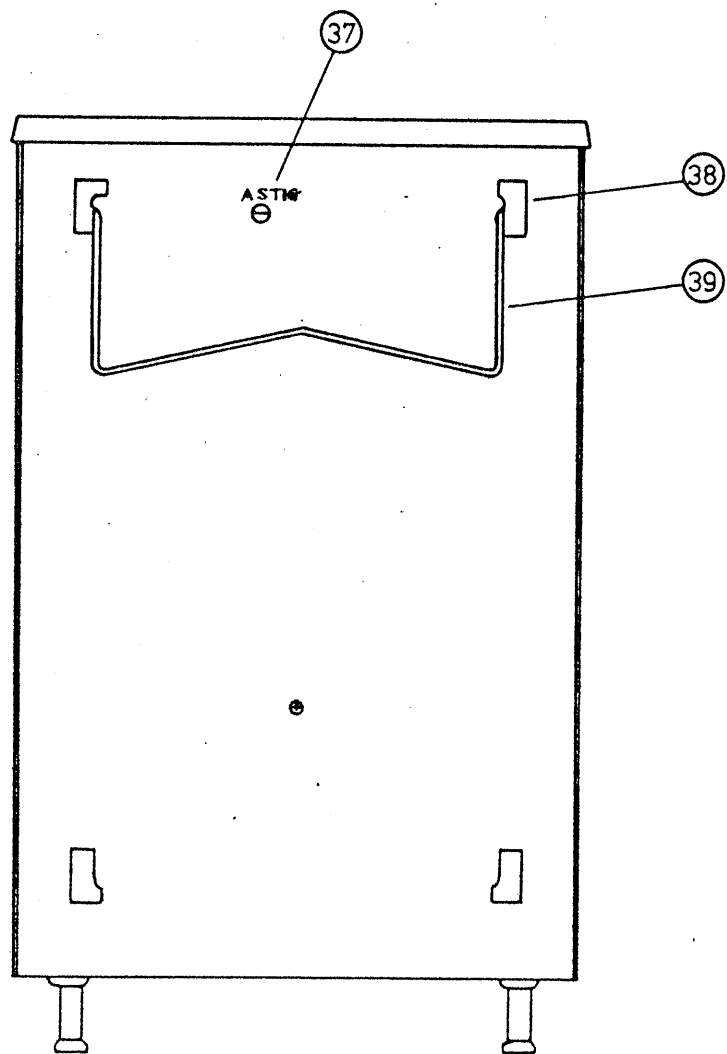

Fig. 3
③④	—	AC power cord of the oscilloscope
③⑤	—	Studs for using the oscilloscope in a vertical attitude. Also used as AC power cord take-up posts.
③⑥	(FUSE)	Fuse holder. Fuse rating is 0.5 A for 100 V system AC line or 0.3 A for 200 V system AC line. For replacing the fuse, remove the cap by turning it counterclockwise.
3.3 Explanation of Bottom (See Fig. 3)